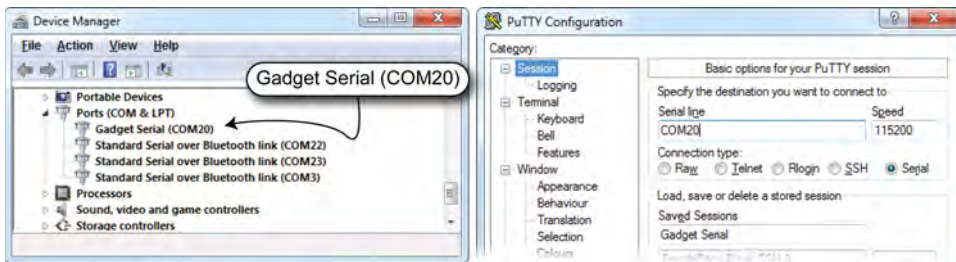

Figure 2-4: Windows Device Manager and opening a PuTTY serial connection to the BBB
- **Port number:** You can find this by opening the Windows Device Manager and searching under the Ports section. Figure 2-4 captures an example Device Manager, where the Gadget Serial device is listed as COM20. This will be different on different machines.